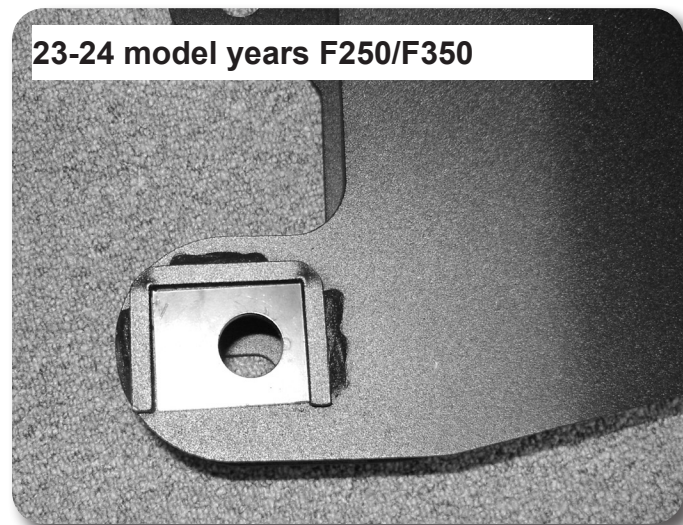

Figure 14A - 3" Lift
30. With both sides completely installed and loosely fastened, position the rectangle cam plates properly from the amount of lift on the vehicle. For lift heights of 3" or less the cam should be positioned back, so that the bolt is offset closer to the rear of the vehicle. For lift heights of 4" or more the cam should be positioned forward, so that the bolt is offset closer to the front of the vehicle. Figure 14A/B - Cam position